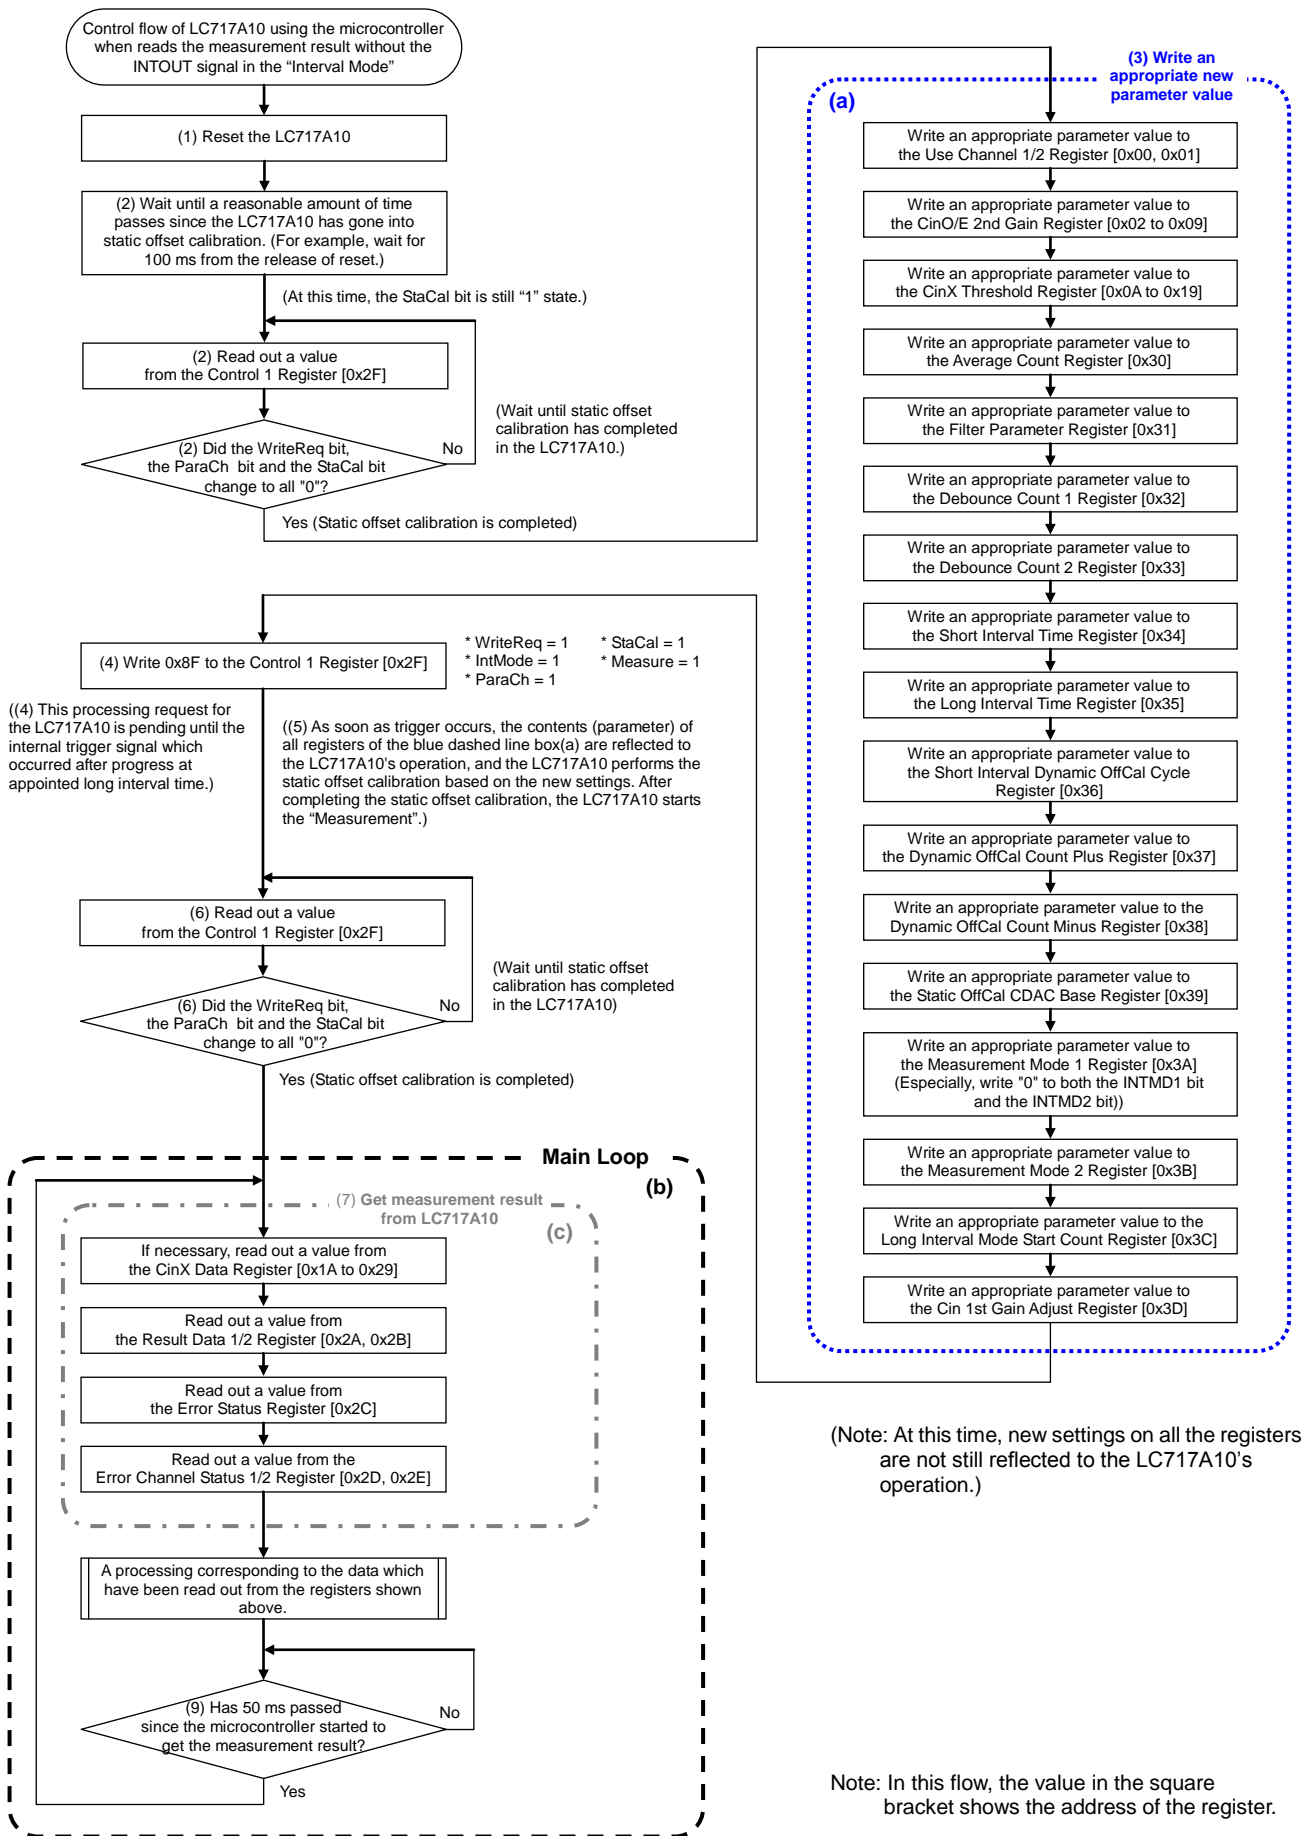

Fig.4-4 Control flow example when the microcontroller reads the measurement result without the INTOUT signal in the "Interval Mode"
- (2) After controlling the nRST signal line, the microcontroller waits until a reasonable amount of time passes since the LC717A10 has gone into static offset calibration. For example, the microcontroller waits for 100 ms from the release of reset. Afterwards, the microcontroller reads the Control 1 Register (Address=0x2F), and waits until all of the WriteReq bit, the ParaCh bit and the StaCal bit are “0”.
- (3) The microcontroller writes an appropriate parameter value to each register of the LC717A10 over the I²C (or SPI) bus. (For more information about registers the microcontroller may write a parameter to, refer to the inside of the blue dashed line box(a) on the control flow diagram shown in Fig.4-4)